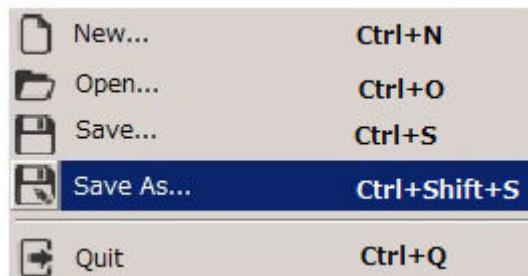

Figure 7-52 Save project file
- Click Save As. (Figure 7-52)